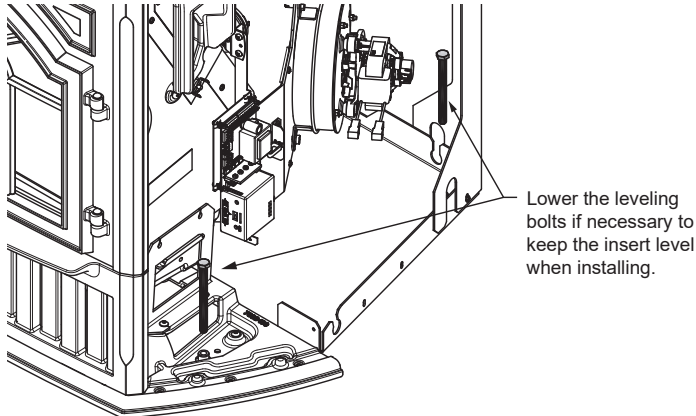

Figure 19.1
The leveling bolts are located on the sides of the appliance, front and rear. To access the bolts, remove the front access panels. Reach in and turn the bolt to the desired height to level the appliance (**Figure 19.1**).
4. Lay the cast bottom face up. Attach the 2 sides FIRST and then the front piece (**Figure 19.1 on pg. 19**).